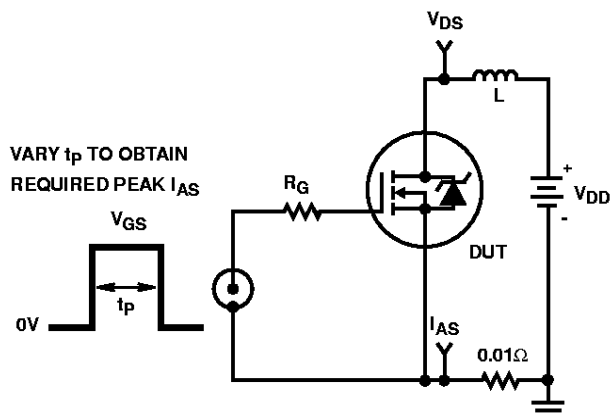

FIGURE 15. UNCLAMPED ENERGY TEST CIRCUIT
4.  $V_{DD} = 40\text{V}$ , starting  $T_J = 25^\circ\text{C}$ ,  $L = 29.09\text{mH}$ ,  $R_G = 50\Omega$ , peak  $I_{AS} = 2.5\text{A}$  (Figures 15, 16).